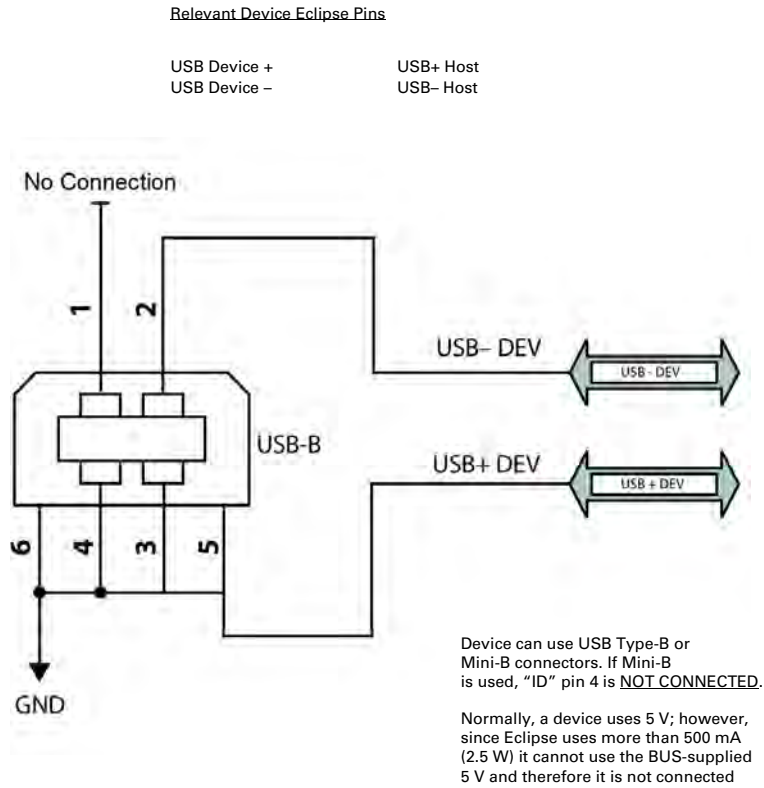

Figure 2-6: Eclipse USB device design example
- USB device port (data communication) shown in Figure 2-6 on page 16 serves as a high speed data communications port, such as for a PC